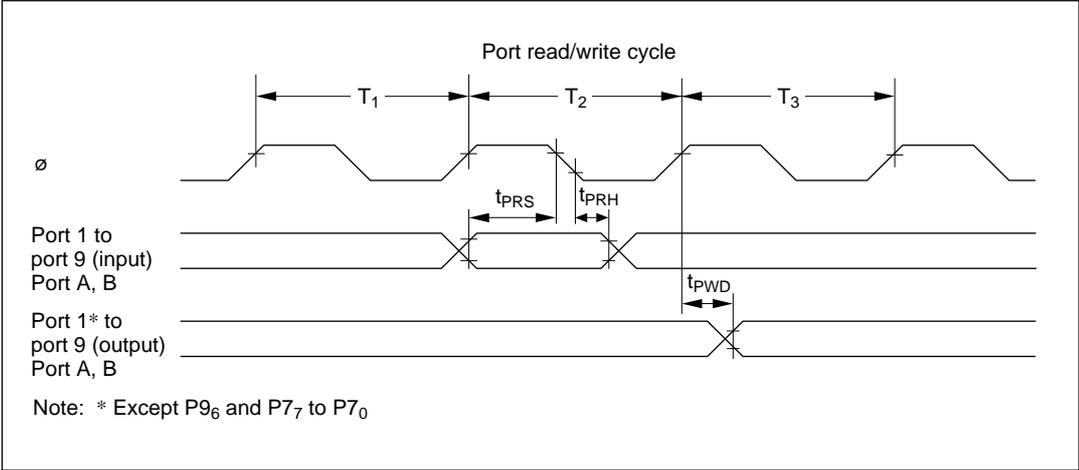

Figure 20-18 I/O Port Input/Output Timing
20.3.7 I/O Port Timing	Figure 20-18